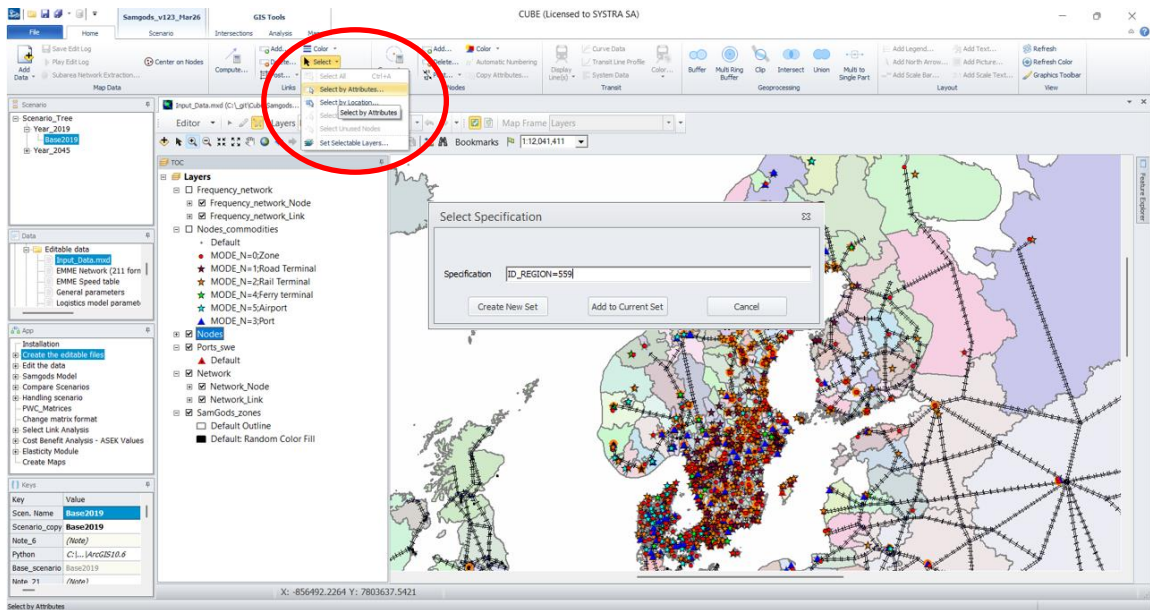

Figure 61 Select by attribute tool
- For example, to select all the nodes in a region, the user only needs to select the layer in the TOC and then specify the ID_REGION attribute using Select -> Select by attribute... on the main toolbar in Figure 61.